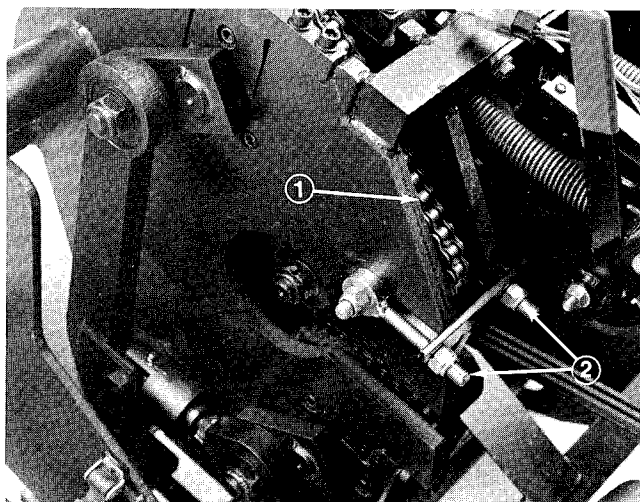

Figure 46
1. Depress chain in span between the idler sprocket and upper crank arm sprocket. Applying 8–12 lbs. of force on designated area, chain should deflect .25 inch + .03 (Fig. 46)
2. Tighten or loosen each eyebolt nut to increase or decrease chain tension. Make sure each eyebolt is adjusted equally (Fig. 46).
4. To make sure eyebolts are adjusted equally, measure distance from center of idler shaft to center of upper crank shaft on both sides of shaft (Fig. 46).